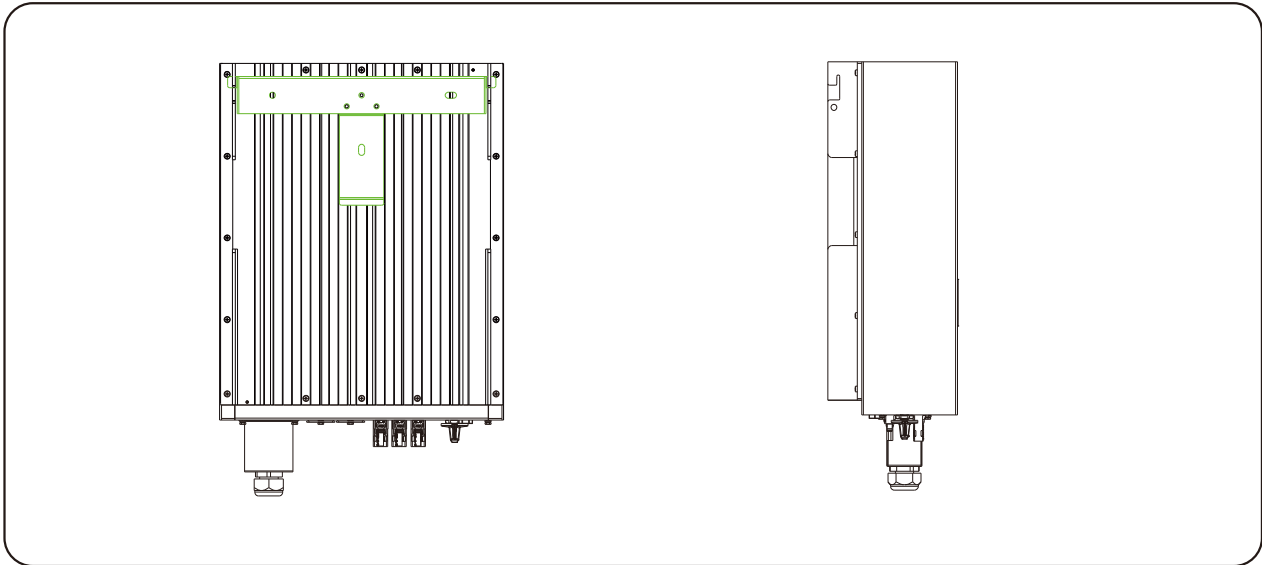

Figure 4.13 Hanging the inverter
**Step 1** Firmly hang the inverter on the rear panel, as shown in Figure 4.13.